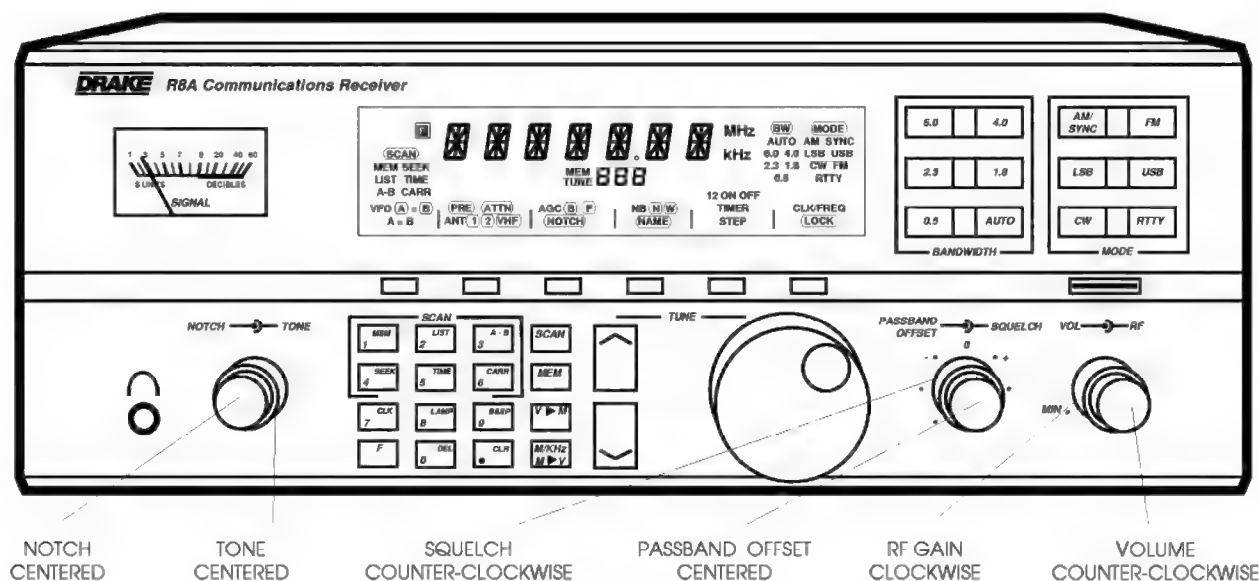

FIGURE 8
1. Please refer to FIGURE 8 and adjust controls as shown.